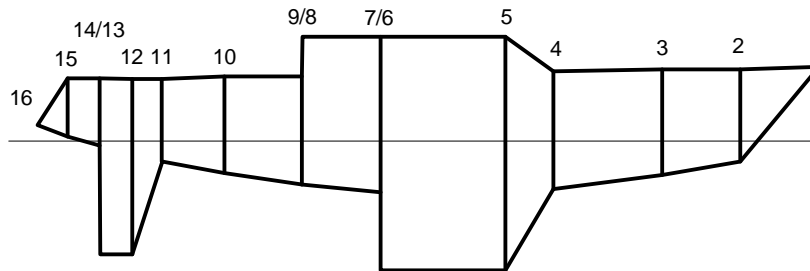

Fig. 1. Profile of TEST25B with stations numbered.
- Stations must be in ascending order in X. Use two consecutive stations at the same X-position to represent a discontinuity in cross-section (Fig. 1).